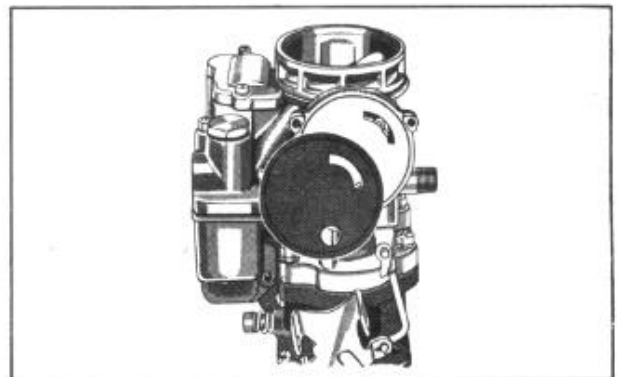

FIGURE 93
29. Install choke baffle plate and gasket, Figure 93.